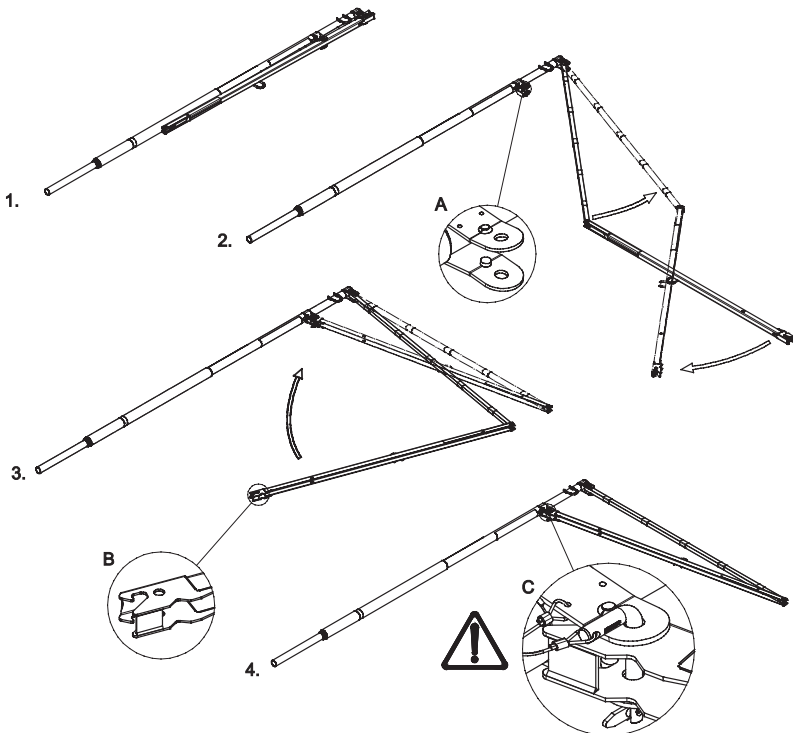

Figure 28. Assembly process of the SkyReach Anchor
10.1. Mount the SkyReach Anchor from the folded position in four easy steps, please see Figure 28: